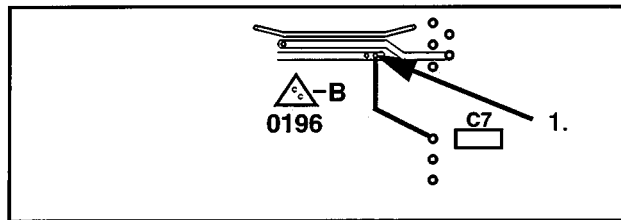
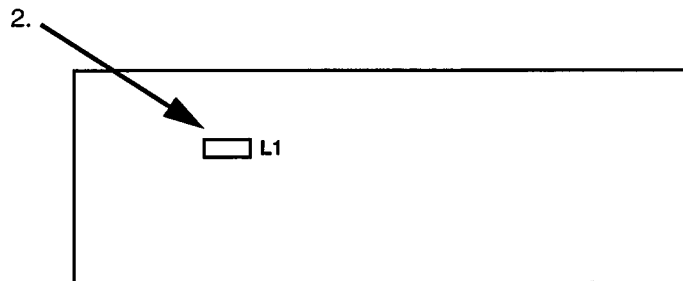

Figure 1. CL-GD7555 Power Supply Module for Demonstration Board (Solder Side)
Figure 2. CL-GD7555 Power Supply Module for Demonstration Board (Component Side)
- If any of the following VDD power supply groups – BVDD, FPVDD, or MVDD – are used in a 3.3-V configuration, to ensure the proper functioning of the CL-GD7555 Demonstration Board, refer to Figure 1 and Figure 2 and make the following adjustments to the Power Supply Module that is used with the Demonstration Board.